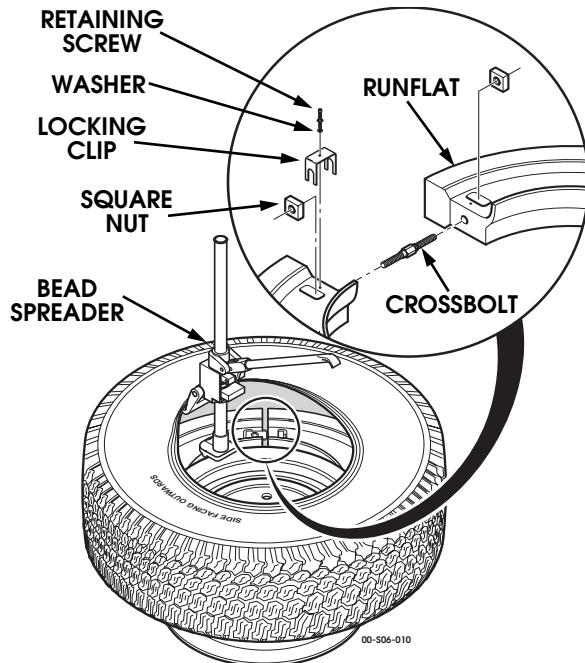

Figure 6-23: Runflat Removal
10. Pull tire bead up away from wheel to expose runflat assembly. This can be accomplished with pry bars or a bead spreader device (Figure 6-23).